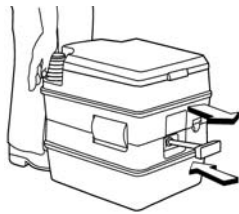

Figure J11: Porta Potti - Bellows Flush Operation
Before each use: With seat cover closed, open and close the holding tank valve (Figure J11) to vent any pressure that may have built up as a result of heat or altitude. This prevents upward splashing of bowl contents when toilet is flushed.
1. Pull out holding tank valve handle (Figure J11).